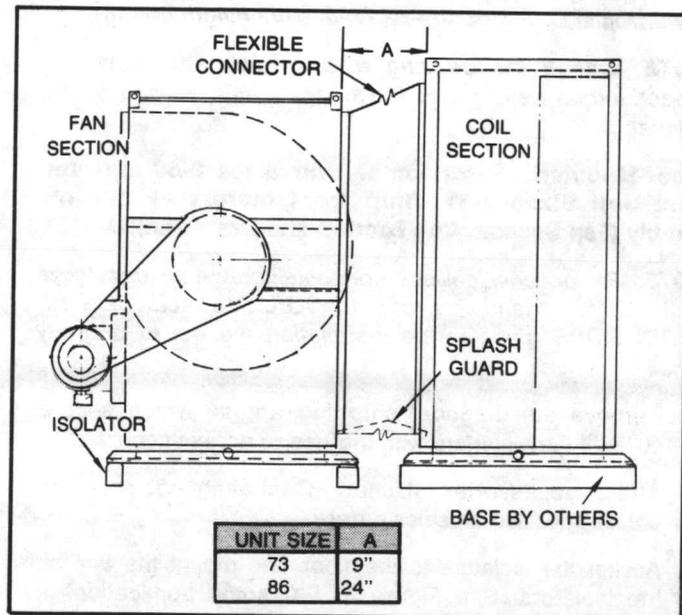
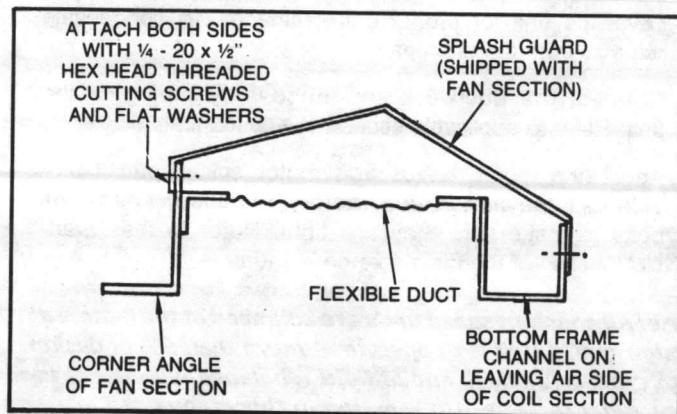

FIGURE 7 - Mounting Clearance Dimensions for Draw-Thru Units Sizes 73-86
FIGURE 8 - Splash Guard Installation
4. Horizontal Units Size 73 and 86 — To assemble unit, mount the fan section on the isolators and fasten. Attach flexible connector to the fan section. Then fasten the splash guard to the fan section. See Figure 8. Mount the coil section on the base with the required distance between fan and coil sections. See Figure 7. Each fan section and coil section have separate factory assembled drain pans. Each drain pan must be trapped separately.
NOTE: Coil section base is provided by the installer. Height of coil section base should be equal to working height of fan section isolators. Be sure the base is high enough to allow room for a piping trap. See Figure 7. Refer to drain trap sketches in piping section.
4. Horizontal Units Size 73 and 86 — To assemble unit, mount the fan section on the isolators and fasten. Attach flexible connector to the fan section. Mount the coil section on the base with the required distance between fan and coil sections. See Figure 7. Drain pan is factory assembled to each section.